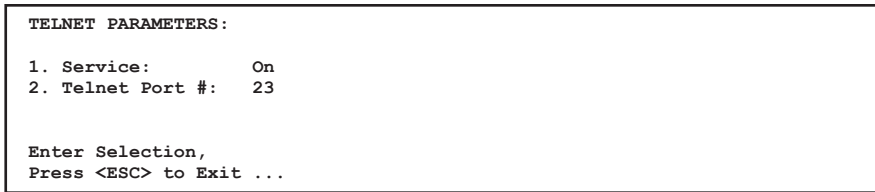

Figure 5.13: Telnet Parameters Menu - Text Interface
- **Text Interface:** Type **/T** and press **[Enter]**. The Telnet Parameters Menu will be displayed as shown in Figure 5.13.